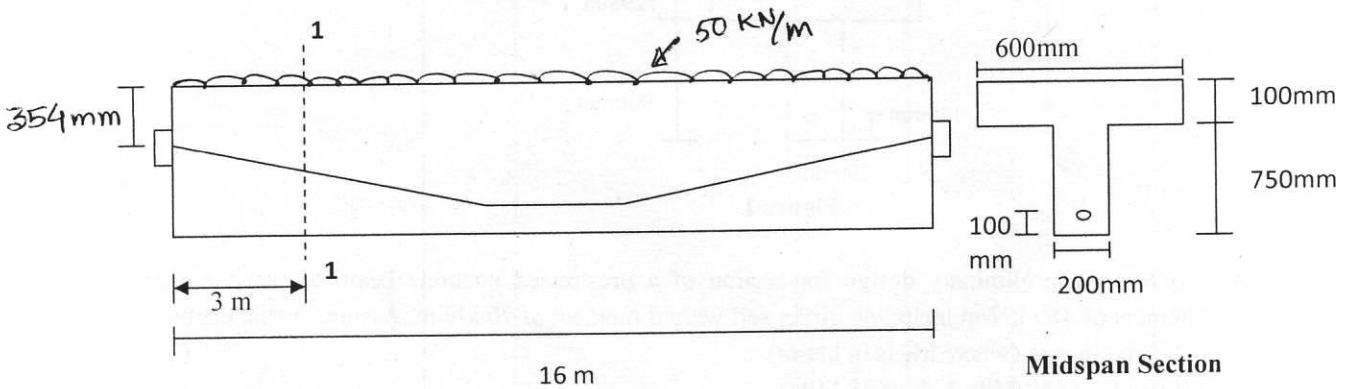

Figure 3
5. (a) Why is the shear capacity of prestressed concrete beam higher than corresponding R.C beam? (5)
(b) Check shear strength of the beam shown in Figure 3 at section 1-1 which is at 3 m from the left support. Use both equation (web shear crack and inclined shear crack) for shear strength evaluation. Effective prestress with 20% loss = 1300 kN. Use $f'_c = 40 \text{ MPa}$, $A_s = 920 \text{ mm}^2$. Self weight of beam is 6.5 kN/m. c.g of the T beam section is located at 354 mm below the top fiber. (20)